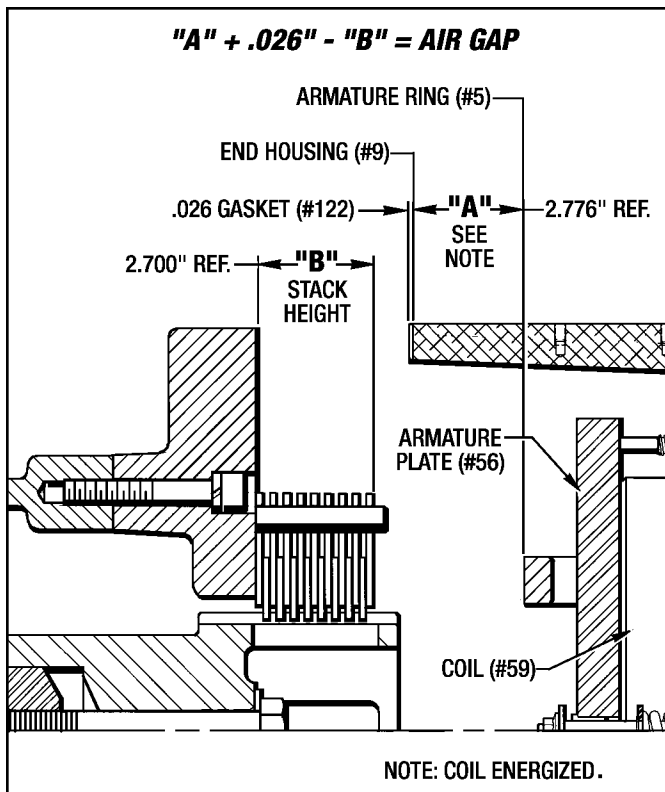

Figure 7.4 - Checking Air Gap for MSB12
If the Brake Stack needs replaced then the new Brake Stack, consisting of (9) Drive Plates (#12) and (8) Friction Discs (#13), needs to be measured to determine whether or not any .020" Shims (#986) are required in the stack to attain an **Air Gap of .07"-.09"**. The Air Gap is the space between the front face of the Coil (#59) and the back face of the Armature Plate (#56) with the Brass Shim (#184) attached to it. (See Figure 7.4)